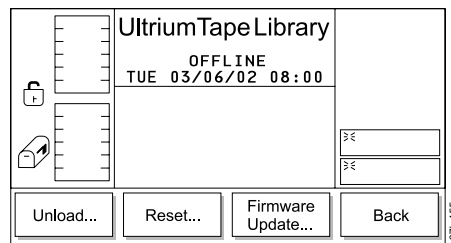

Figure 187. Drives Submenu
2. Press the button below the **Drives** softkey. The Drives Submenu displays (see Figure 187).
5. To return to the Drives Submenu (see Figure 187 on page 155), press the button below the **OK** softkey. To return to the Main Menu press the button below the **OK** softkey, then press the button below the **Back** softkey until the Main Menu displays.